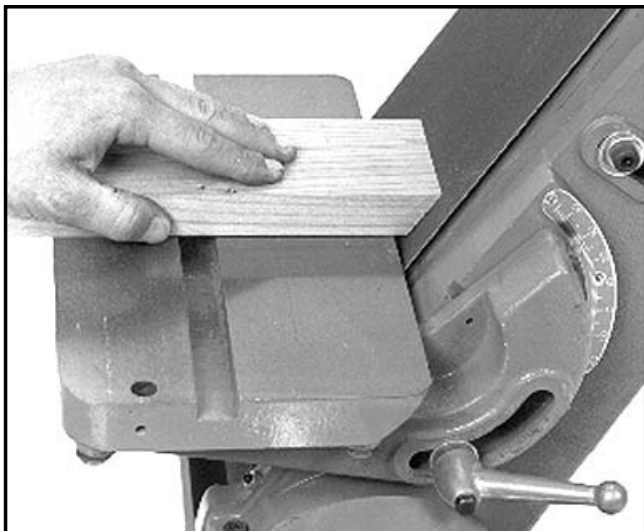

Figure 19. Bevel sanding.
3. When using the belt arm for bevel sanding, you will have greater control over your work if you tilt the belt arm and maintain the table at level. **See Figure 19.**